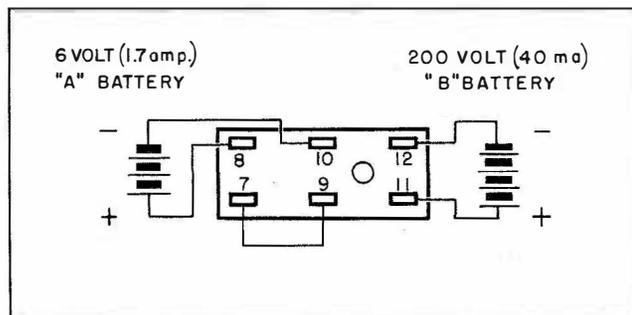

Figure 3-1—Battery Connections to Mating Jack Receptacle as Viewed from Batteries
d. Battery connections should be made to a Mating Jack Receptacle (not supplied, see Sec. I, Par. 5) following the connection as given by Figure 3-1 which are as follows:
- (1) Connect terminal No. 7 to terminal No. 9.
- (2) Connect terminal No. 8 to A+
- (3) Connect terminal No. 10 to A—
- (4) Connect terminal No. 11 to B+
- (5) Connect terminal No. 12 to B—
Terminal No. 10 (and hence A—) is the grounded terminal. Terminal numbers are embossed inside the plug as shown in Figure 3-1.